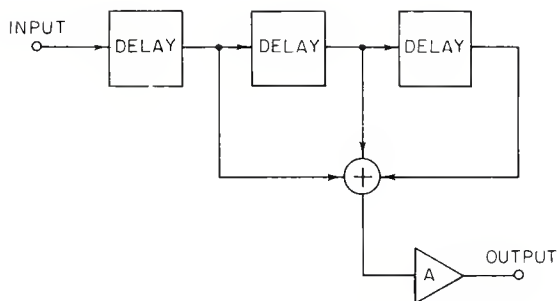
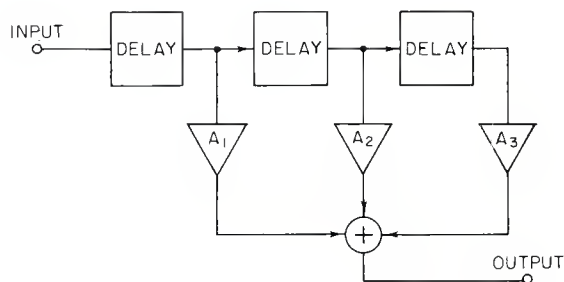
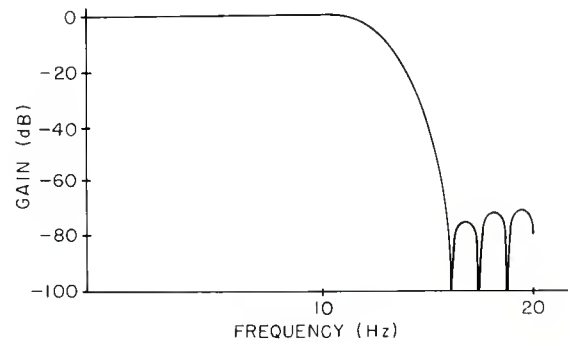

Figure 1. A basic digital low-pass filter.
Figure 2. A tapped-delay filter.
Figure 4. Frequency response of a 32-tap low-pass filter.
FIGURE 1 is a block diagram of how this algorithm might be implemented digitally. Three consecutive samples are added and the sum is multiplied by  $\frac{1}{3}$  at A. In practice, however, a more general and versatile form of this filter is employed (see FIGURE 2). If each of the three multipliers (A1, A2, A3) is set equal to  $\frac{1}{3}$ , it should be evident that this filter is equivalent to the one shown in FIGURE 1. However, the structure of FIGURE 2 is preferred, because it allows the individual tap multipliers, called coefficients, to be selected independently. The greater the number of taps employed, the more control one has over the characteristics of the filter. The name given to this class of tapped-delay filter is "non-recursive, finite-impulse, linear-phase response." FIGURE 3(A) shows a first-order, non-recursive filter, while FIGURE 3(B) demonstrates the effect of varying the coefficient of the filter multiplier, A. Not surprisingly, a single tap doesn't result in impressive performance. However, if enough taps are used, and the coefficients are correctly chosen, any arbitrary frequency response may be realized. FIGURE 4 is an example of the type of response possible using only 32 taps. Although the response is nifty, an awful lot of operations are required to obtain it. Take heart: there is a more-efficient method.